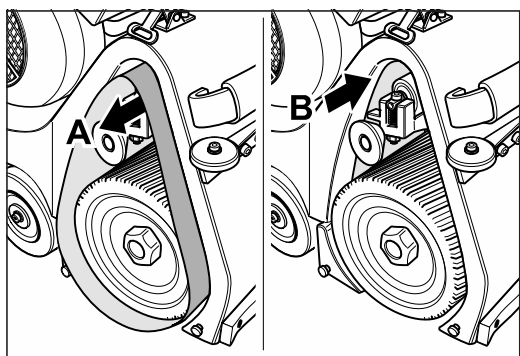

Fig. 47 If the sanding belt runs in direction of **A** or **B**, the setting of the sanding belt tracking is necessary. **Similar to figure.**
- 5 If the sanding belt runs to the front (in direction of **A** in fig. 47) or to the back (in direction of **B** in fig. 47) the setting of the sanding belt tracking is necessary (→ *Section 7.3.2, Setting the sanding belt tracking*). If the sanding belt tracking is alright, mount the side cover.
If the sanding belt is running out of true (in direction of **A** or **B** in fig. 47), it must be turned around and another test performed.
If the sanding belt runs to the front (in direction of **A** in fig. 47) and after turning over runs to the back (in direction of **B** in fig. 47) or vice versa, the sanding belt is of poor quality and is not usable (conical sleeve)!